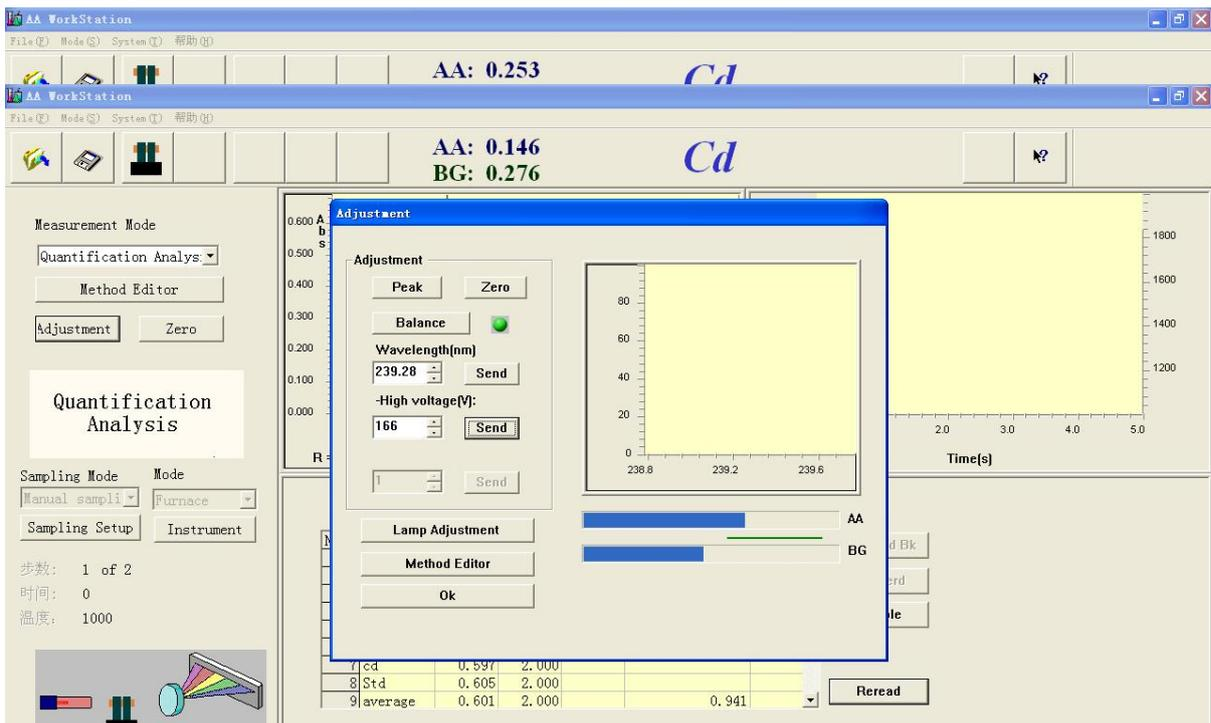

Figure 5-76
2. Please first align lamps, see Figure 5-76, press "Balance" to balance between the background light and work light